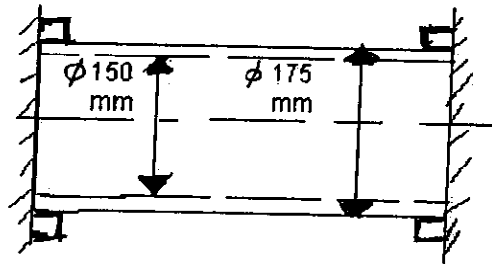

Fig.Q3
3. A steel pipe is held by two fixed supports as shown in Fig.Q3. When mounted, the temperature of the pipe was 20°C . A fluid moves through the pipe at a temperature of -10°C and if we take the coefficient of linear expansion to be $12 \times 10^{-6}/^{\circ}\text{C}$ for this temperature range, determine the state of stress and strain in the centre portion of the pipe as a result of cooling. Neglect the logical end effects, body forces and fluid pressure and drag forces. Take $E=205\text{GPa}$ and Poisson's ratio=0.3. [5]